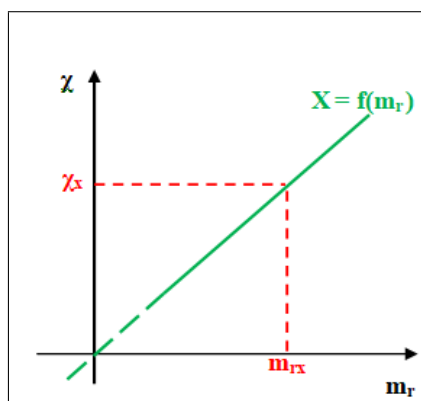

Figure 2.8: Conductivity as a function of molarity.
* Plot the graph: Conductivity as a function of concentration ($\chi = f(m_r)$) (Figure 2.8).